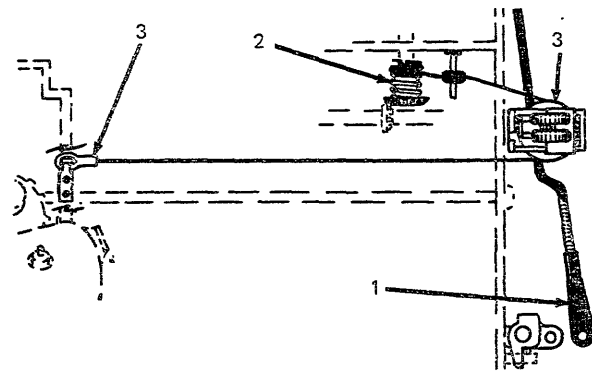

Figure 4-9. Escapement-Cord Replacement
1. Disconnect the carrier-return-clutch unlatching link (No. 1, Figure 4-9).
6. Connect the escapement cord to the drum with about one turn of the cord on the drum (No. 2, Figure 4-9).
7. Connect the end of the cord to the carrier and then place it on the pulleys (No. 3, Figure 4-9).